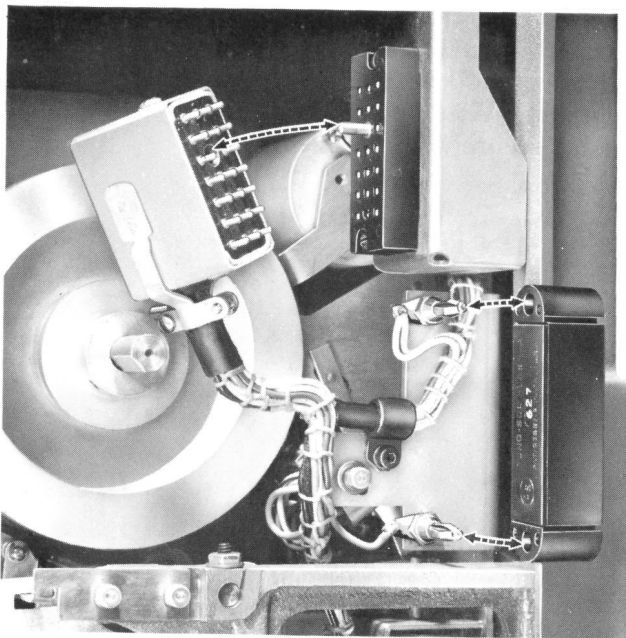

Fig. 6 — 2A Telephone Answering Set Showing Tungsol Thermal Flasher No. 627 Removed, 10A Recorder Plug, and Power and Control Unit Jack (J1)
4.04 If the No. 627 Tungsol thermal flasher becomes defective, remove it by grasping firmly and pulling straight away from the side of the answering set (see Fig. 6).
4.05 The F1 fuse is mounted in an HKP fuse holder located in the center of the TS1 terminal strip. For fuse inspection or replacement, turn top of fuse holder counterclockwise and withdraw. See Fig. 6 in section entitled 2A Telephone Answering Set, Installation.